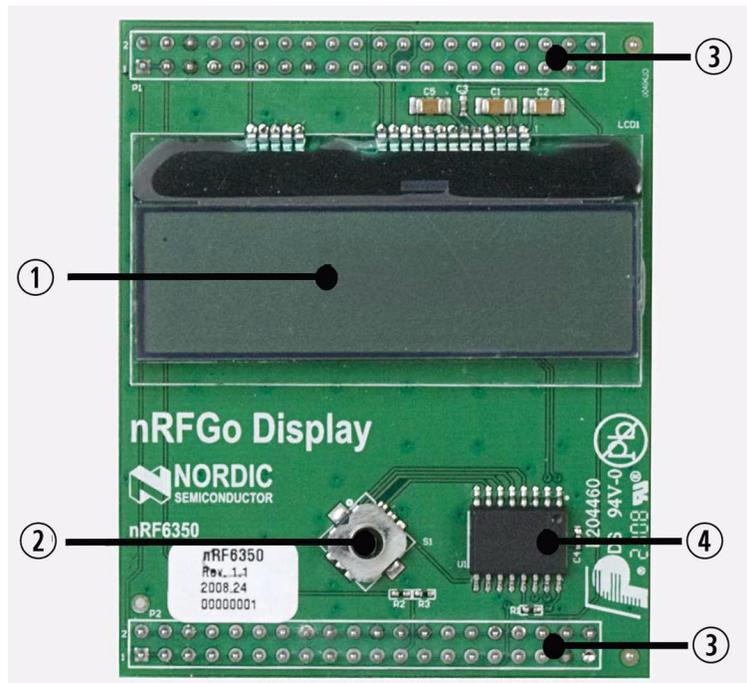

Figure 18. The Display module (nRF6350)
The 2x16 alphanumeric display (① in Figure 18.) uses 2 wire serial communication and is connected to the extension board socket 2-wire bus. This enables the display to be used by both the Motherboard main MCU or by any nRF development kit module that has a 2-wire master.
The joystick (② in Figure 18.) is connected to a 2-wire port extension IC (④ in Figure 18.), MAX7329 from Maxim. The 2-wire port extension IC uses the slave address 0x3F on the 2-wire bus and it also has an interrupt line that signals use of the joystick. This uses the spare1 line on the Extension Board connector (③ in Figure 18.).